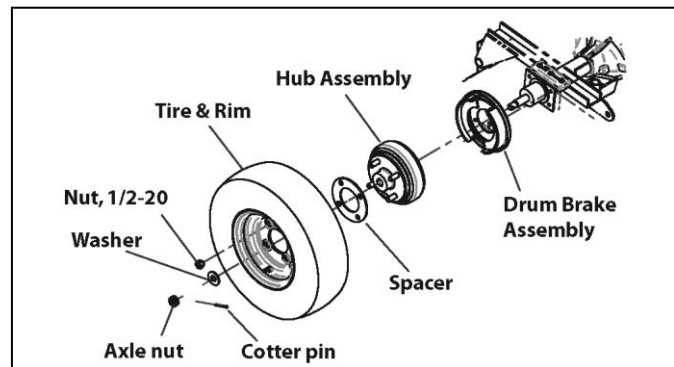

Figure 7-2
3. Remove lug nuts and remove rear wheel/tire assemblies. Remove and discard cotter pin and axle nut. Release brake and remove washer, spacer and rear wheel hub (Figure 7-2). Repeat for other side.
20. Remove O-rings (10) at each end of intermediate shaft on bearing shoulders. See Figure 7-2.